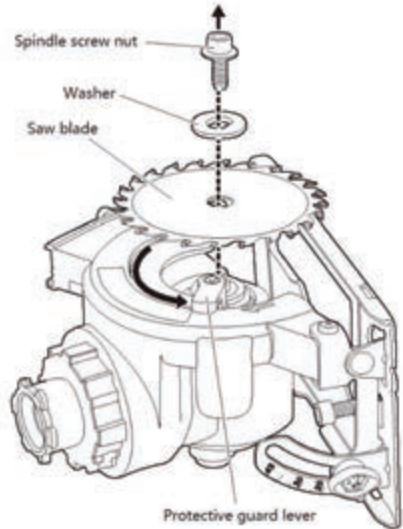

Figure 4
- 4) Take out the screw nut and the washer, the blade could be removed/changed.(Figure 4)